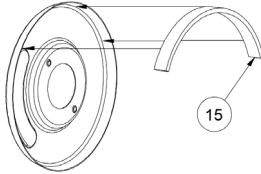
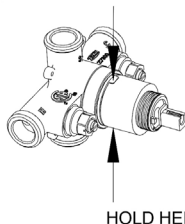

FIGURE 2
FIGURE 4
2. Always install valve with mud guard (23) so that the indicated surface on mud guard is flush with finished wall. The hole in the wall should be 100mm in diameter.
3. If valve is to be used for a shower only, wrap threads on tub plug (24) with teflon tape and install plug into tub port on shower valve.
5. Loosen and remove escutcheon (19) from valve. Carefully remove cartridge (10) from valve by holding cartridge as close to the valve body (1) as possible and wiggling back and forth until cartridge comes out of the valve. Place thumb and finger on gray part of cartridge to remove it, as shown in Figure 4.
7. If hot and cold supply inlets are reversed simply remove cartridge and reinstall with cartridge flipped 180°. The handle adaptor (12) will need to be readjusted. To adjust handle adaptor remove and turn 180°. Handle should always turn through cold, then hot. Reinstall cartridge and tighten escutcheon to 150 in lbs. The system will need to be flushed again before installing shower heads.
8. To adjust temperature limit stop (11), turn valve to desired hottest temperature, remove temperature limit stop (11) turn clockwise and reinstall so that the white protrusion on cartridge is touching the red protrusion on the temperature limit stop.
- Hand tighten escutcheon nut (20) on valve.
- Remove tape from gasket (15) and adhere gasket (centered on the top half of the back of cover plate (16)) so that 1/4 of the width of the gasket is sticking out beyond the back of the cover plate, see Figure 2.
- Place cover plate over escutcheon (19) and fasten with screws (18).
1. Remove handle (21) and cover plate (16).
2. Using a flathead screwdriver, turn both service stops (7) clockwise until they bottom out. This allows the valve to be serviced without turning off the main water supply. If service stops need to be repaired or replaced, the main water supply must be turned off and the service stop retainer (9) must be removed by turning counter clockwise.
3. Remove escutcheon nut (20) and escutcheon (19).
4. Remove cartridge (10) by placing thumb and forefinger where shown in figure 4 and carefully wiggling cartridge. **Caution: If cartridge is not removed in manner described damage may occur to cartridge.**